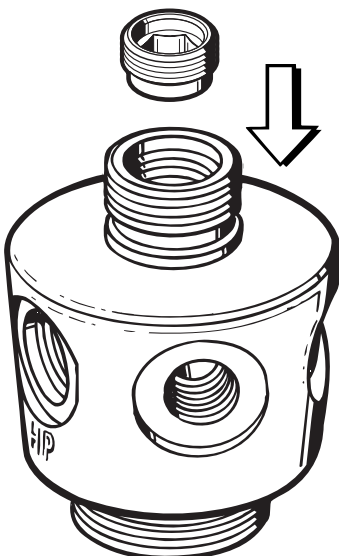

Fig. 7 - Crown retainer installation
6. Turn the body over so that it stands vertically with the inlet boss facing up. Mate a current revision crown retainer into the inlet boss with the unthreaded, smaller diameter end facing down (see Fig. 7). Apply a calibrated torque wrench with a 6mm hex key socket to tighten the crown retainer clockwise to a torque measurement of 42 inch-lbs (± 2).
8. Carefully stretch the O-ring(11) over the threads of the inlet boss to install it into the groove at the base of the threads.
9. Install the O-ring(6) into the recessed groove inside the yoke retainer(7).